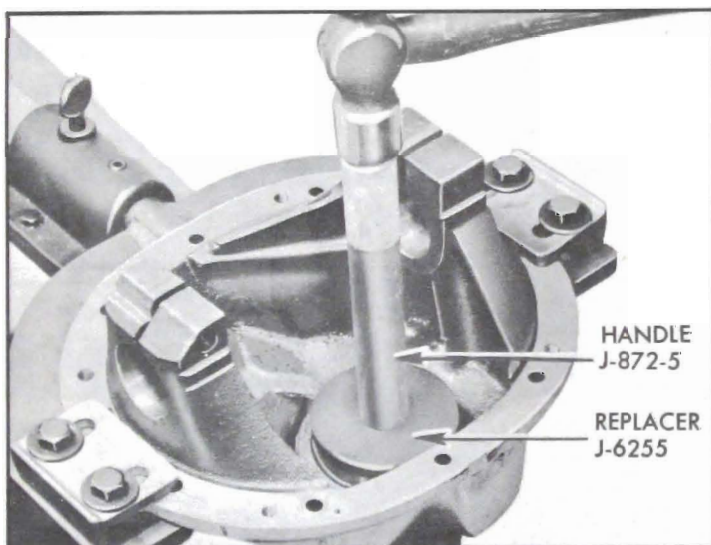

Figure 6-22—Installing Rear Pinion Bearing Outer Race
2. Drive rear pinion bearing outer race against shoulder in carrier using Replacer J-6255 with driver handle. See figure 6-22.